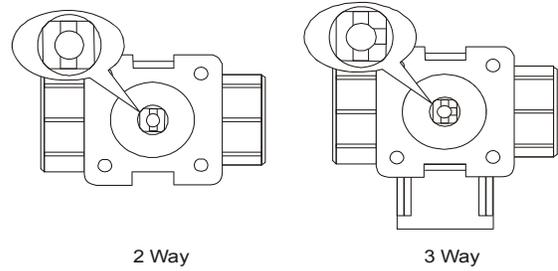

Figure 10: Positioning the Valve Stem
- 1. Turn the valve stem to the position outlined in Figure 10.